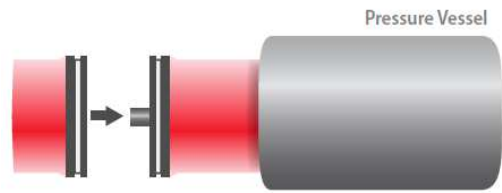

Figure 1.3: Connecting with the next element
7. Take the next RO element, lubricate the brine seal with glycerine and push it with gentle twisting onto the second half of the interconnector of the previously installed RO element. The two elements must touch each other (Figure 1.3 and 1.4). During this procedure the weight of the second RO element is supported by the interconnector, therefore the RO elements must be aligned to avoid damage to the permeate tube. Then, push the RO elements into the vessel until 2/3 of the second RO element length is inside.